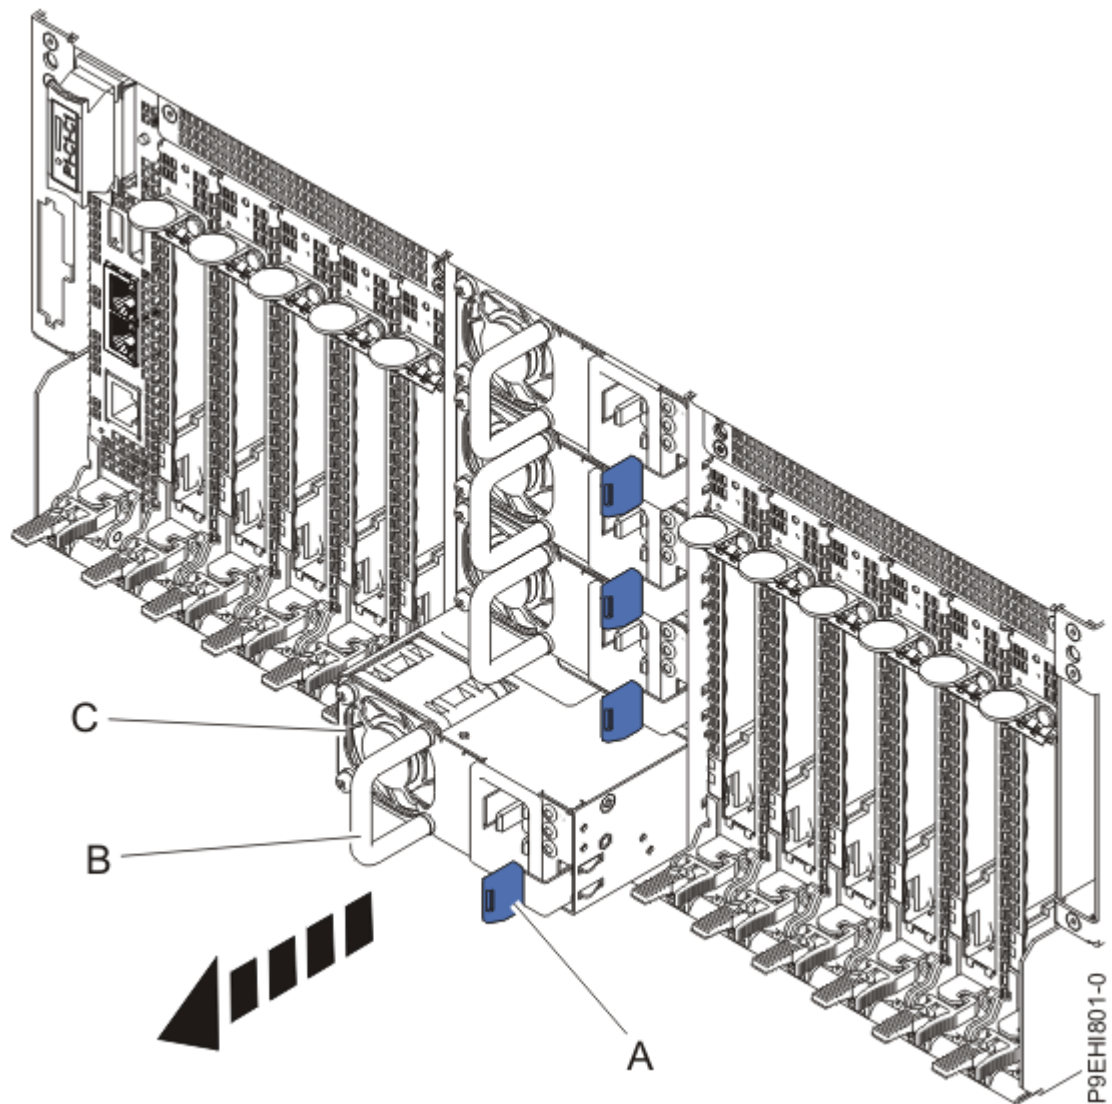

Figure 6: Removing a power supply from the rear of the system chassis
3. Push the locking-tab **(A)** to the left, as shown in Figure 6 on page 8.
4. Using the handle **(B)**, pull the power supply away from the system, as shown in Figure 6 on page 8.